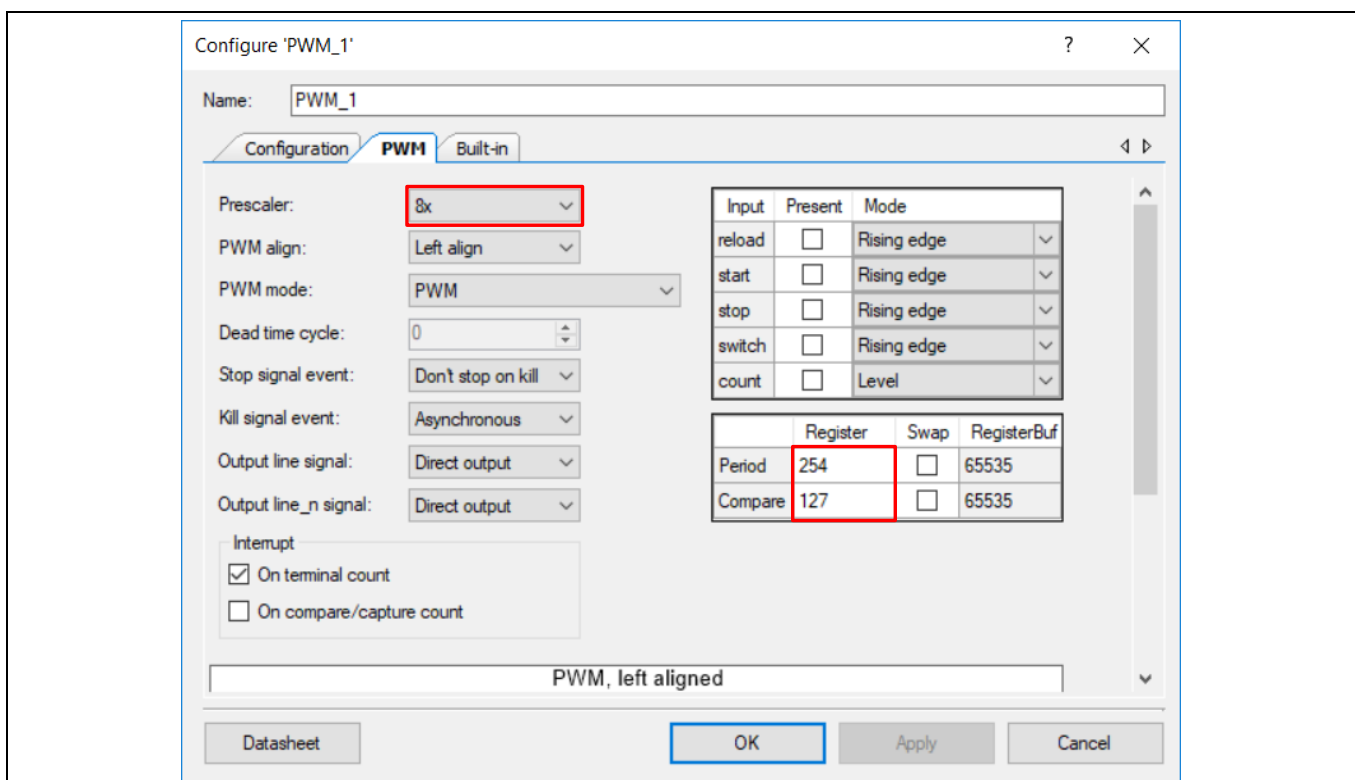

Figure 39 Configuring the PWM Component
7. Double-click the PWM Component on the schematic to configure the Component properties, as shown in **Figure 39**. Click the **PWM** tab, and set the Period value to 254 and the Compare value to 127 to generate a PWM signal with a 50 percent duty cycle.